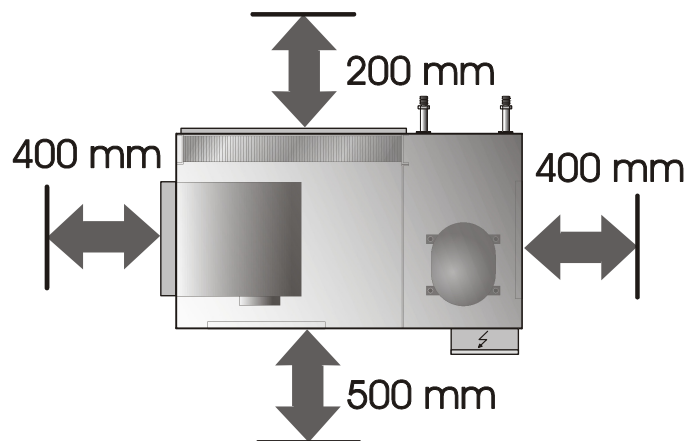

Fig. 7-2
- Install the unit in a location with convenient access to the service panels, air filter and control box. See Fig. 7-2 for minimum permissible distances to adjacent structures.